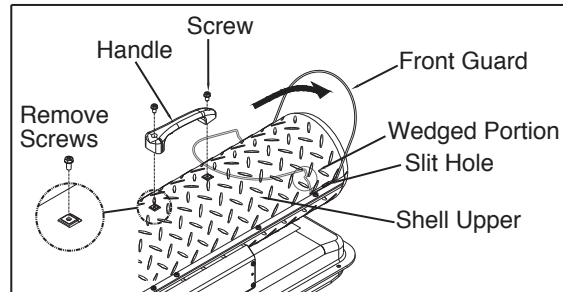

Figure 6. Assembling Handle
- 3) Align the holes in the upper housing with two mounting holes on the handle as shown in Figure 6.